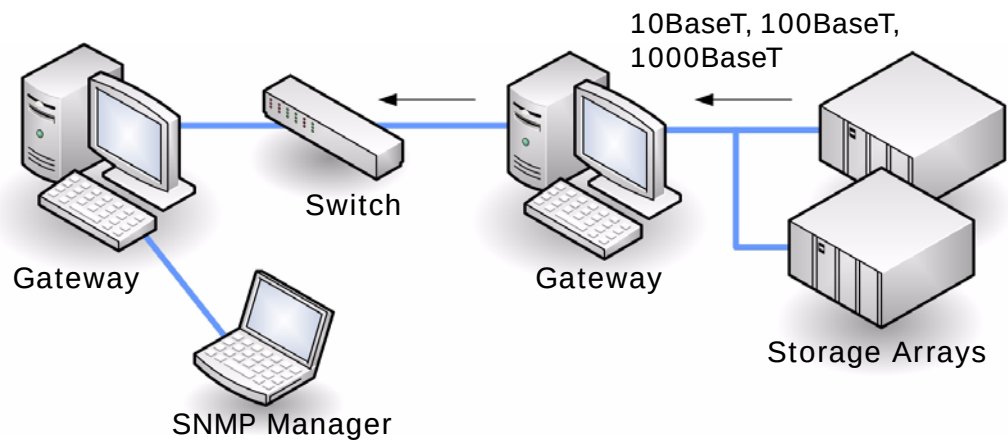

Figure 9-6: Example of a public network configuration
- Public network — where gateways allow a remote computer or workstation acting as an SNMP manager to connect to the Hitachi modular storage array being managed. Figure 9-6 shows an example of this configuration.